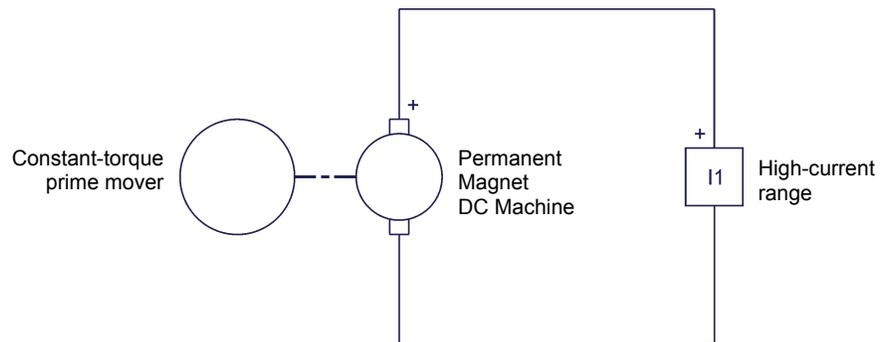

Figure 32. Setup used to plot the torque-versus-current characteristic of the *Permanent Magnet DC Machine* operating as a generator.
24. Connect the equipment as shown in Figure 32. Use the high-current (40 A) terminal of current input *I1* on the Data Acquisition and Control Interface.